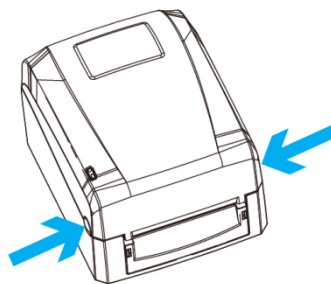

Figure 2-1: Cover Release Buttons
2. Press the two buttons indicated in Figure 2-1.